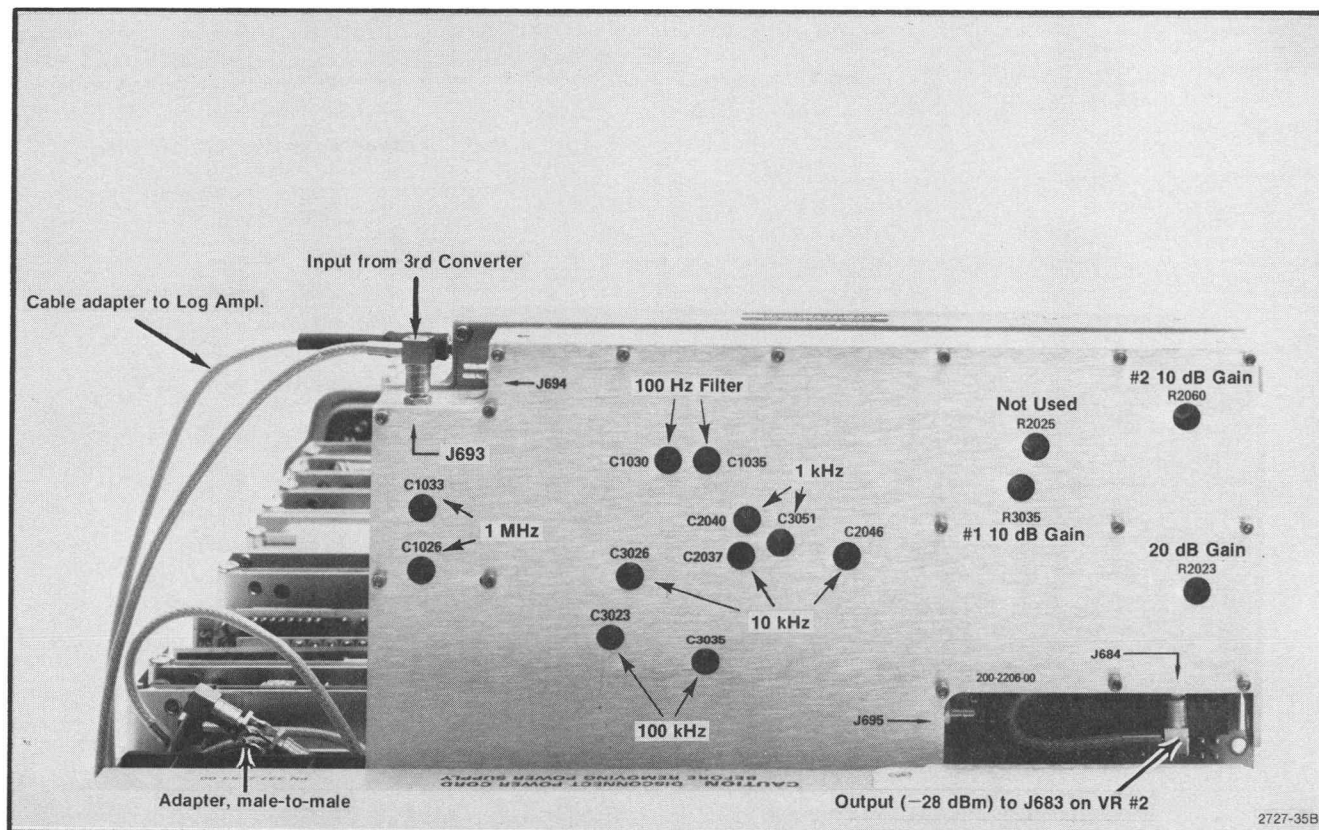

Fig. 3-44. Calibration adjustments on VR #1 module.
o. Now, switch the FREQ SPAN/DIV to 50kHz, the RESOLUTION BANDWIDTH to 100kHz, and adjust the 100kHz filter with C3023 and C3035 (Fig. 3-44) for filter shape and frequency centering.
q. Switch the RESOLUTION BANDWIDTH to 1 MHz and FREQ SPAN/DIV to 500kHz; then adjust the 1 MHz filter response and centering with C1033 and C1026 (Fig. 3-44).
s. Adjust the 10kHz filter with C3026, C2037, and C3051 (Fig. 3-44) for best filter shape and amplitude.
t. Set the FREQ SPAN/DIV to 500 Hz and RESOLUTION BANDWIDTH to 1 kHz; then adjust the 1 kHz filter with C2040 and C2046 (Fig. 3-44) for best amplitude and waveshape.
u. If the instrument has Option 3, switch the RESOLUTION BANDWIDTH to 100Hz and the FREQ SPAN/DIV to 500 Hz. Adjust the 100 Hz filter with C1030 and C1035 (Fig. 3-44) for amplitude and waveshape.
d. Remove the signal to J683 and reconnect P683; then disconnect P693 of VR#1 (Fig. 3-44) and apply a -40 dBm signal to J693.
h. Change the REF LEVEL to -30 dBm and the signal level to -37 dBm. Adjust 10 dB Gain, R3035 (Fig. 3-44), of VR#1, so the display is at the seven division reference level.
j. Change the REF LEVEL to -30 dBm and the generator to -37 dBm. Adjust 20 dB Gain, R2023 (Fig. 3-44), so the display is at the seven division reference.
l. Return the REF LEVEL to -30 dBm and the generator output to -37 dBm. Adjust the second 10 dB Gain, R2060 (Fig. 3-44), so the display is at the seven division reference level.